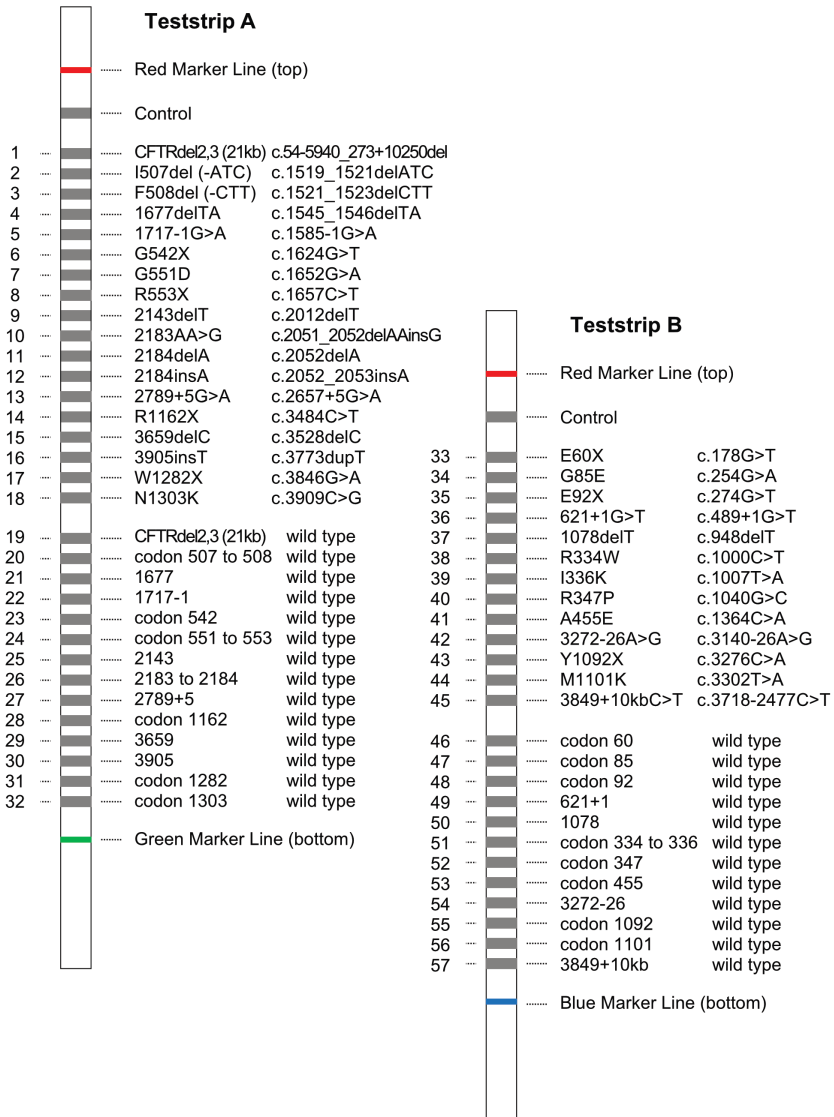

Fig. 1: Teststrip Design
The CF StripAssay® GER is based on polymerase chain reaction (PCR) and reverse-hybridization. The procedure includes three steps: (1) DNA isolation, (2) PCR amplification using biotinylated primers, (3) hybridization of amplification products to a Teststrip containing allele-specific oligonucleotide probes immobilized as an array of parallel lines (Fig. 1). Bound biotinylated sequences are detected using streptavidin-alkaline phosphatase and color substrates.